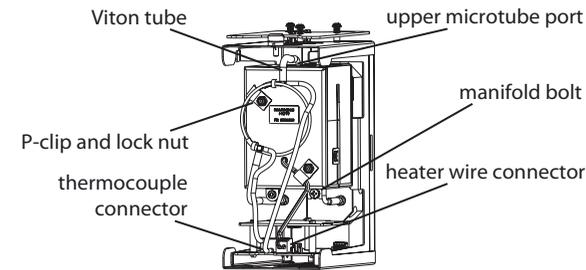

Figure 9: Disconnecting the heater block
3. Disconnect the Viton tube from the upper micro tube port. Discard the Viton tube (Figure 9). Replacement Viton tubing is supplied with the new heater block.